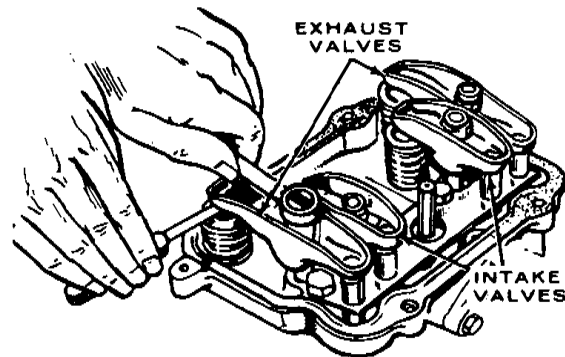

FIGURE 17. CHECK VALVE CLEARANCE
4. Using a feeler gauge, check the clearance between the rocker arm and the valve (see Figure 17). Increase or decrease the clearance until the proper gap is established. Valve clearances are given in the *Specifications* section.